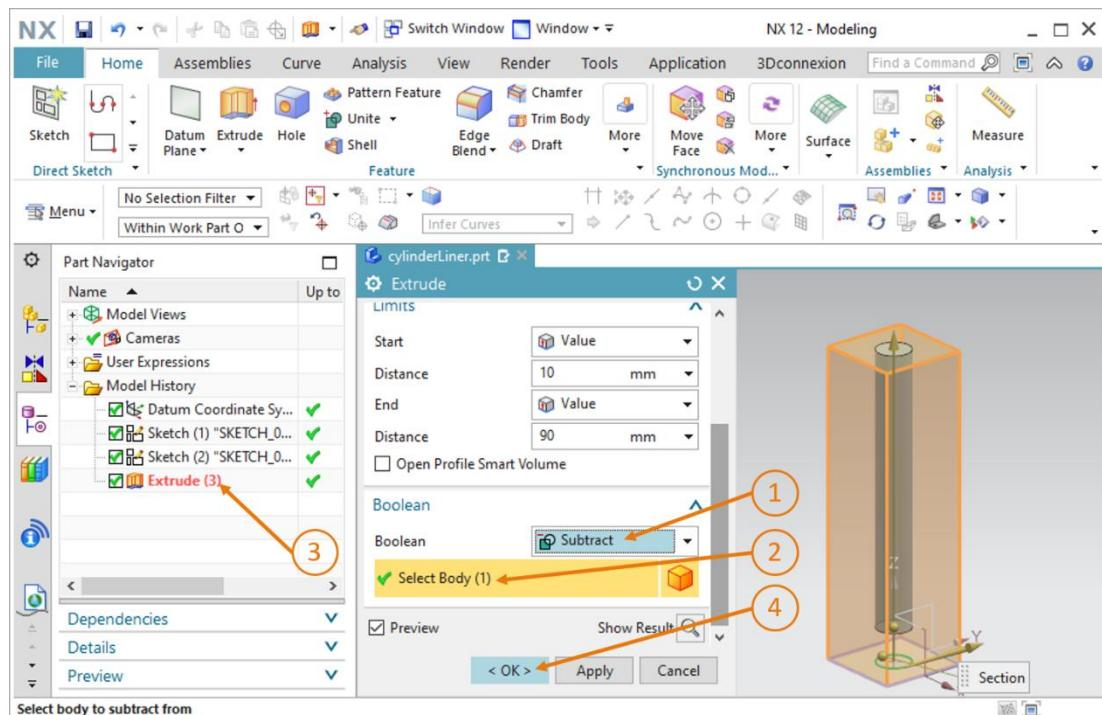

Figure 35: Inserting a hole in the base by "subtracting"
- Go to the "Boolean" section in the "Extrude" command window. Select the Boolean operation "**Subtract**" in order to subtract the cylinder body from the base (see Figure 35, step 1). Select the extruded base body as the body. The name of the body in the model history is once again "**Extrude (3)**" (see Figure 35, steps 2+3). Confirm the operations by clicking the "**OK**" button (see Figure 35, step 4).